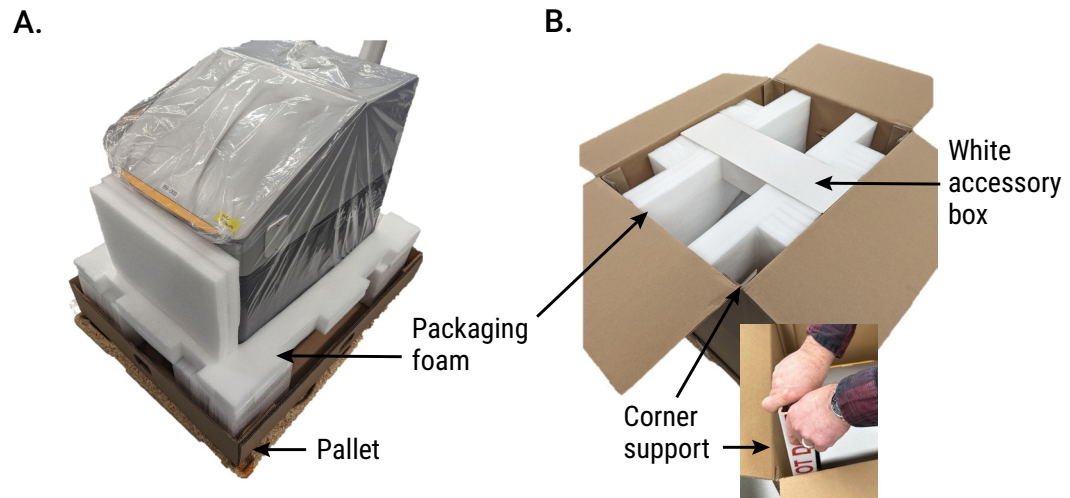

Figure 48. Panel A. Packaging the imager. **Panel B.** Adding accessory box and corner supports.
1. Place the instrument into the bottom layer of packaging foam. Assemble the packaging foam around the instrument (Figure 48, Panel A).
2. Place the white accessory box onto the packaging foam. Insert the four corner supports (Figure 48, Panel B).